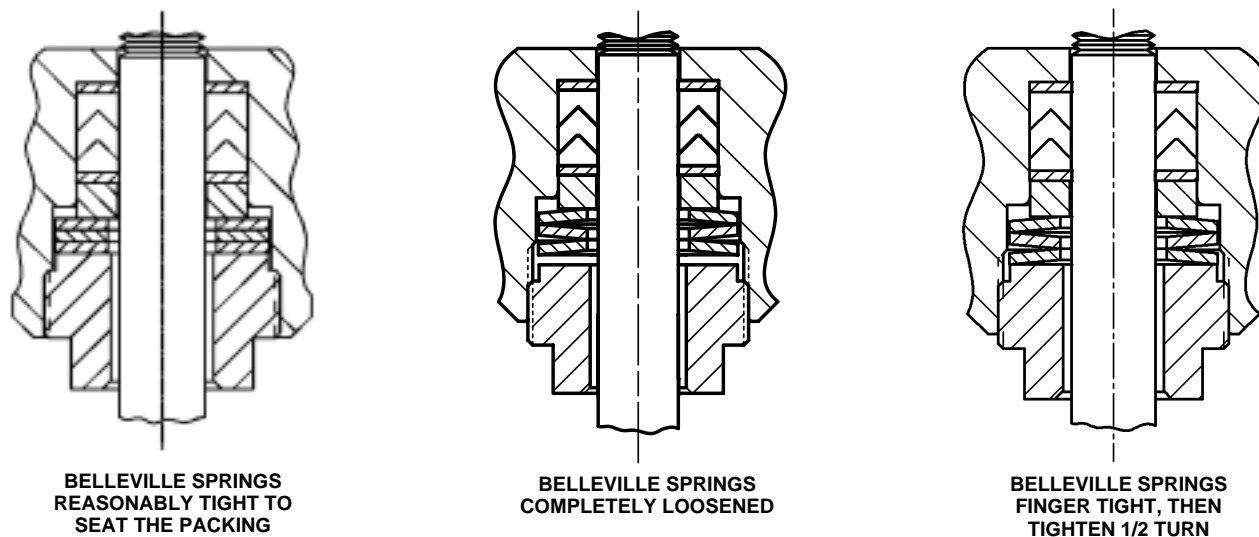

Figure 3. Belleville Spring Procedure
17. Apply a light film of Dow Corning 111 lubricant or equivalent (key 33) to the threads of the packing retainer (key 7).
18. Install the packing retainer into the bonnet and tighten until the Belleville springs (key 9) are reasonably tight to seat the packing. See figure 3.
19. Completely loosen the packing retainer to relieve all Belleville spring compression. See figure 3.
20. Retighten the packing retainer with your fingers until the packing retainer contacts the Belleville springs. See figure 3.
21. Tighten the packing retainer 1/2 turn clockwise. See figure 3.
22. If the bottom casing (key 20) has been removed, place O-ring (key 16) into the groove provided in the top of the bonnet. Place the bottom casing on the bonnet, oriented in the same position as marked in step 7 on page 7. Screw the hex nut (key 18) onto the bonnet, and tighten to 203 N•m (150 lbf•ft).
23. **For spring-to-close actuator action only,** assemble the actuator by first placing the washer (key 24) over the valve stem. Then place the diaphragm (key 19) over the valve stem, and position it so the holes in the diaphragm match the holes in the casing. Place the diaphragm plate (key 25) over the valve stem. Install the washer (key 24), diaphragm hex nut (key 26). Tighten the diaphragm hex nut to 11 N•m (95 lbf•in), while holding the stem by the flats. Install the springs (key 27) and attach the upper casing (key 21) by first installing the two **long** cap screws (key 30) opposite one another.
24. Begin tightening the two long screws evenly until the remaining six shorter cap screws (key 22)